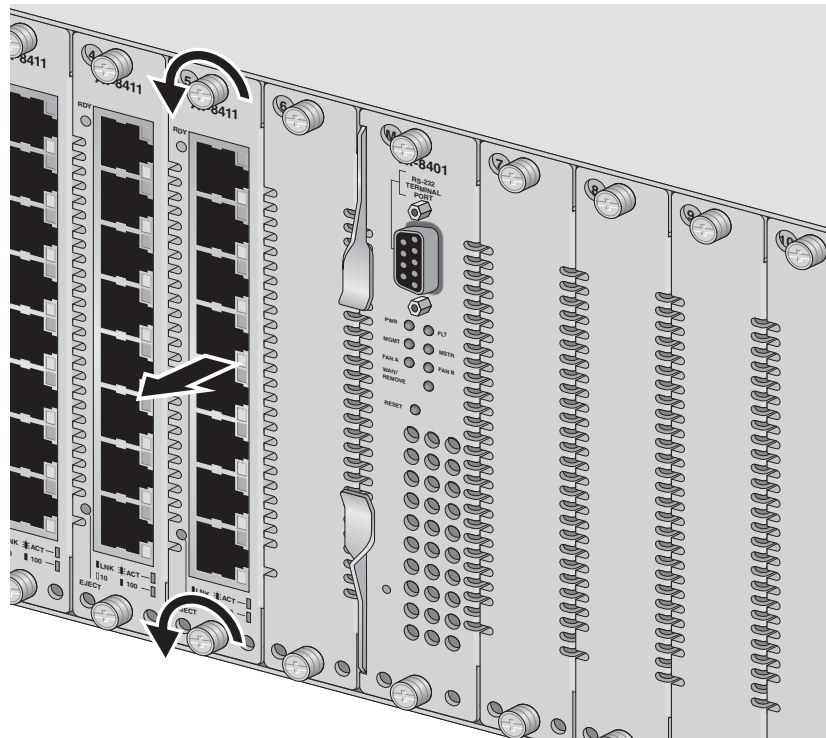

Figure 19 Removing an AT-8411 Line Card
- Using a Phillips screwdriver, loosen the two installation screws on the faceplate of the line card. See Figure 19.